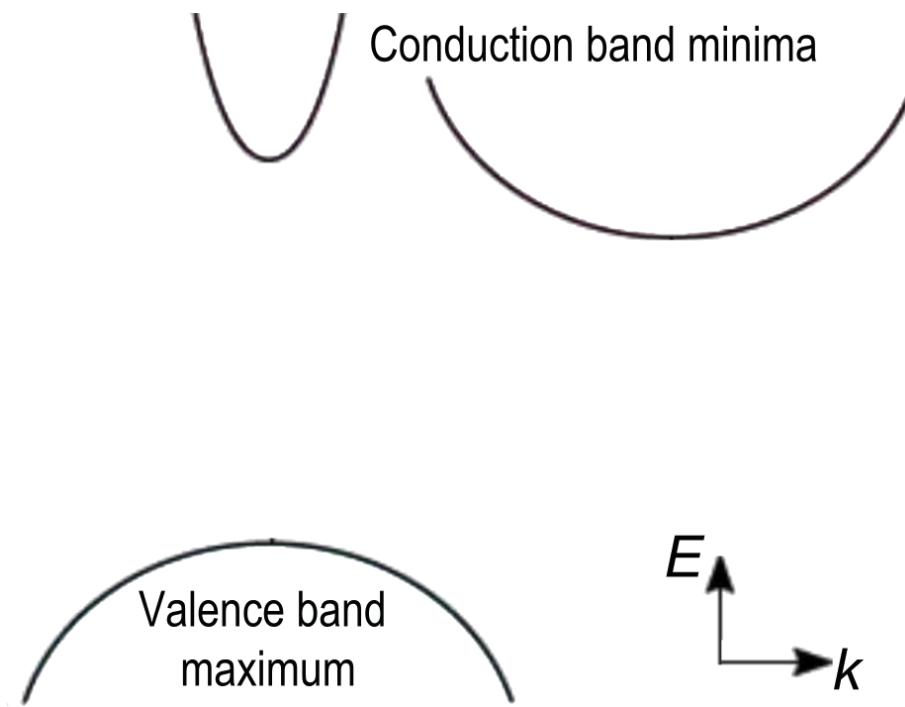

Fig. 2
- 2 (a) Figure 2 shows a schematic band diagram of GaP. Using Heisenberg's uncertainty relationship, explain how efficient light emission can be achieved in this material. Sketch the light emission process, indicating how energy and momentum are conserved. [10%]